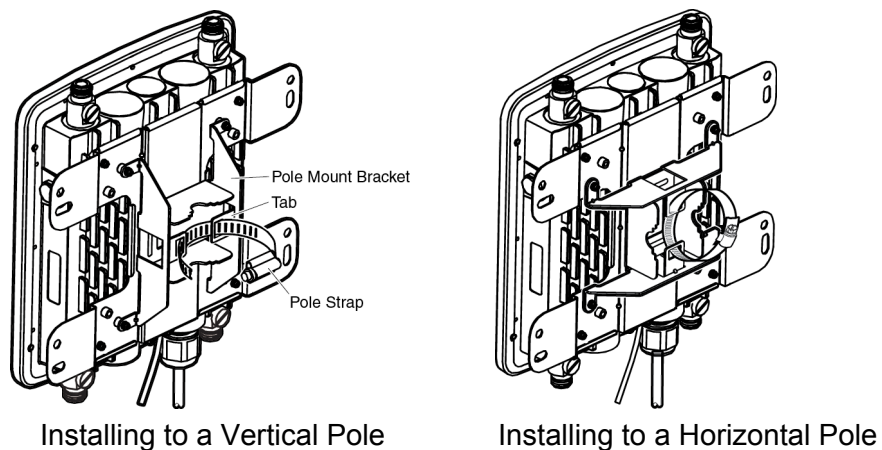

Figure 20. Attaching the O-Ring Clamp to the Pole-Mount Bracket
5. Attach the O-ring clamp to the pole-mount bracket. See Figure 20.